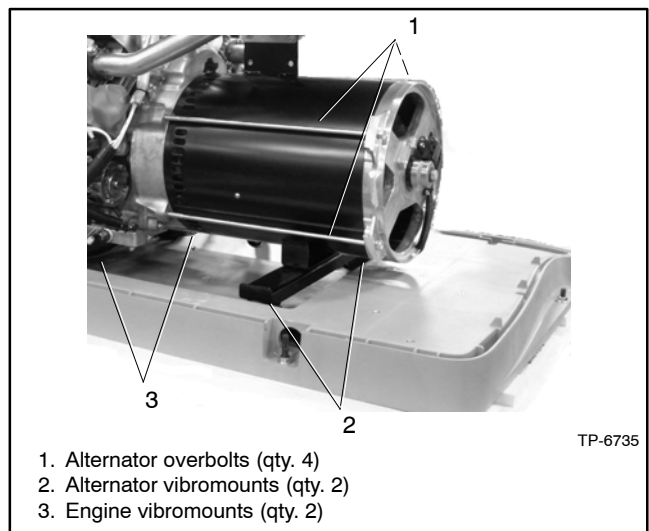

Figure 7-31 Vibromounts and Overbolts (RESA shown)
- b. Lower the end of the generator set and reinstall the screws and washers that secure the vibromounts to the skid. Tighten all four vibromounts (for the alternator and engine) to 5.4 Nm (4 ft. lbs.). Do not overtighten. See Figure 7-31.
5. Tighten the four alternator assembly overbolts to 14.9 Nm (11 ft. lb.). See Figure 7-31.